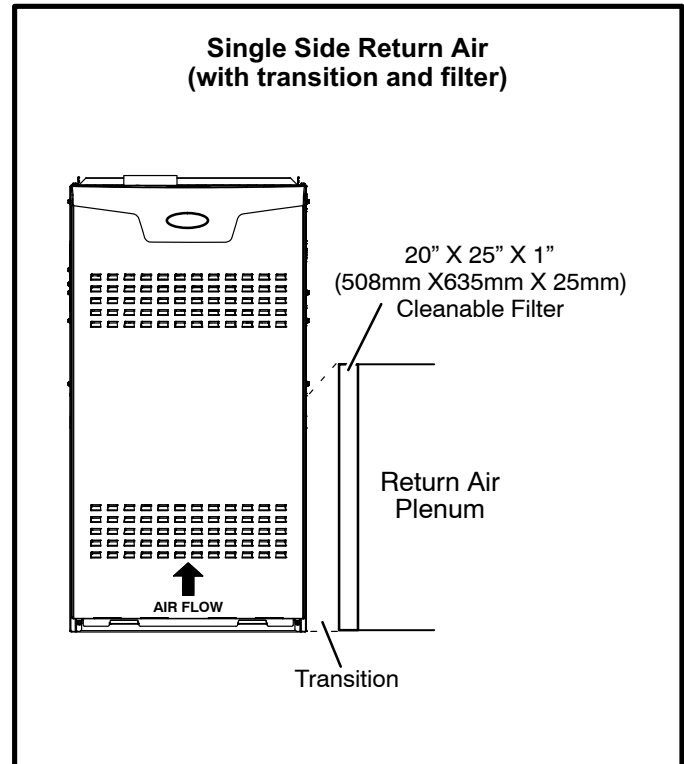

FIGURE 8
- 1 - Return air from single side with transition which will accommodate 20 x 25 x 1 in. (508 x 635 x 25 mm) cleanable air filter. (Required to maintain proper air velocity.) See figure 8.